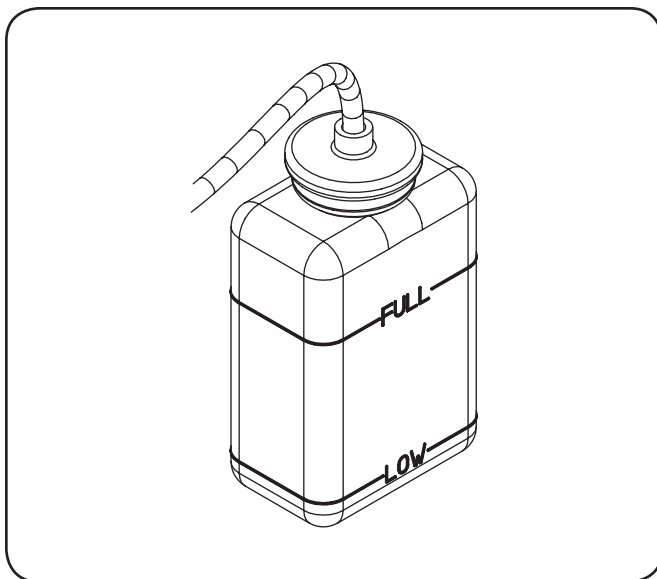

Figure 6-1
3. If the coolant level is below the "LOW" mark, remove the cap from the reservoir and add coolant solution to the "FULL" mark. Refer to Fig. 6-1.